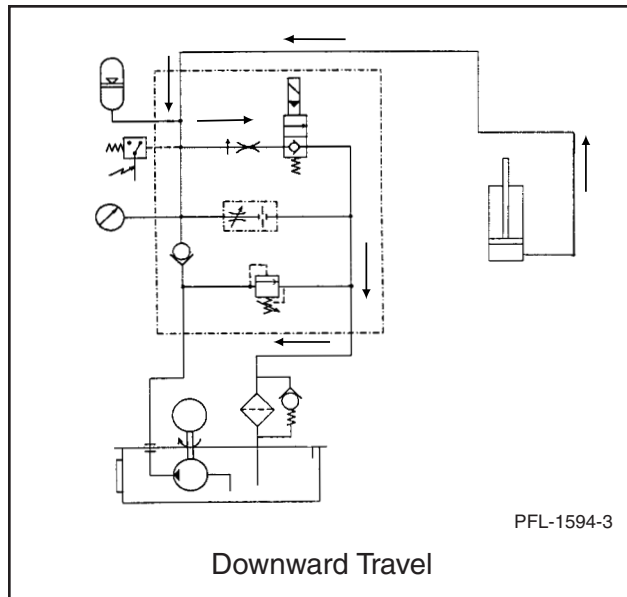

Figure 20
- When the DOWN button is pressed, a solenoid on the dump valve energizes actuating the dump valve to allow the hydraulic fluid in the supply line and cylinder to return to the reservoir through the oil filter. See Figure 20.